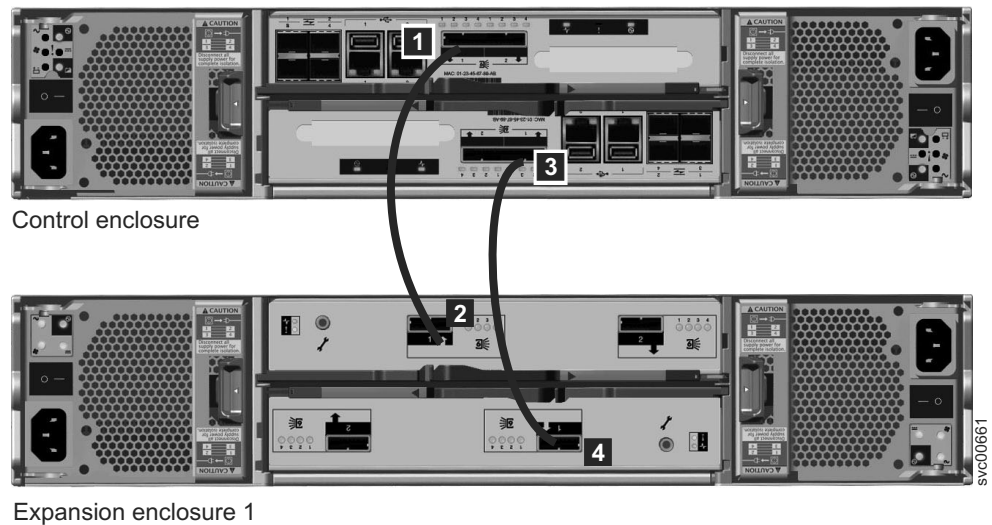

Figure 34. Attaching an expansion enclosure to the control enclosure
- Attach the SAS cables from the control enclosure to the first expansion enclosure as shown in Figure 34. Remove the protective end covers, if necessary. The first expansion enclosure is below the control enclosure.